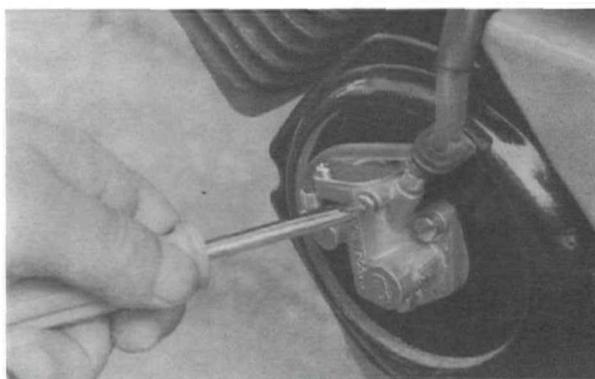

Fig. 40
- Unscrew the bleed screw on the oil pump and wait until oil from the tank under the seat flows to the pump. The screw is then screwed on (fig. 40).